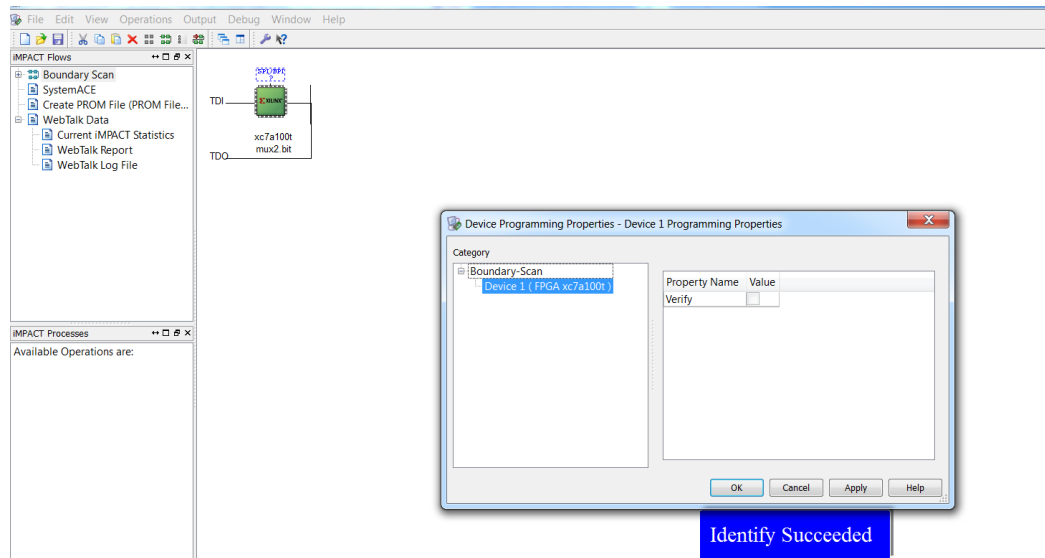

Figure 6
3. Next you will be asked which device on the board you will program, for our case we only have the FPGA chip, click **Ok** to complete as shown in figure 6.